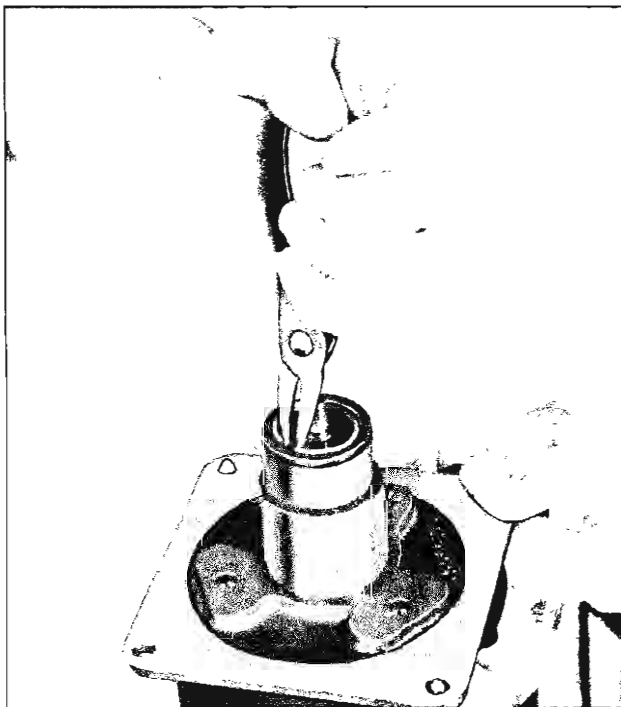

Fig. 33—Removing Seal Seat Retaining Snap Ring
2. Remove the seal seat retaining ring using snap ring pliers J-5403 (fig. 33).